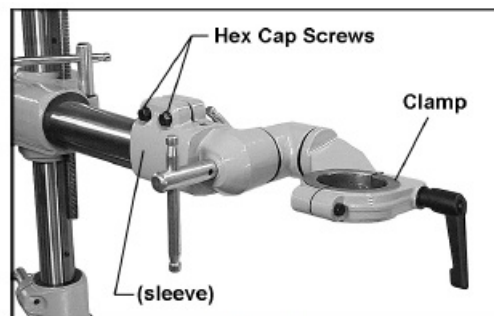
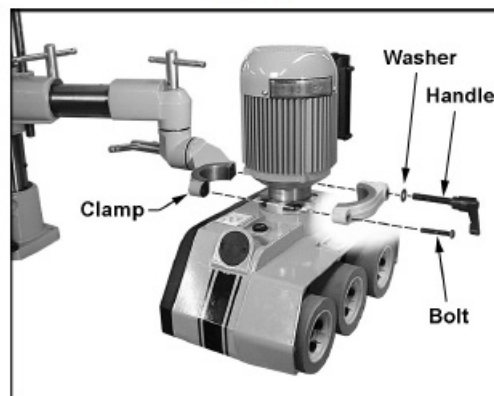

Figure 8
Figure 9
14. Place the sleeve of the over arm cone assembly onto the over arm as shown in Figure 8. Loosen further the two hex cap screws if needed. Push the cone assembly onto the over arm as far as it will go.
15. Tighten the two hex cap screws (Figure 8) with a 14mm wrench. The stock feeder is heavy. The use of an assistant may be necessary.
17. Mounting the feeder body may be easier if you loosen the two hex cap screws (shown in Figure 8) and rotate the over arm cone assembly so that the clamp is toward the bottom, as shown in Figure 9. Loosen the handles and rotate the cones as needed to get the clamp in position. Re-tighten the screws and handles before mounting the feeder body.
18. Unscrew the bolt and the handle (Figure 9) from the clamp, and remove the outer half of the clamp.
The handle (Figure 9) is adjustable. To tighten it, rotate the handle clockwise, then lift out on the handle, rotate it counterclockwise on the pin and release it, making sure it re-seats itself on the pin. Continue this procedure until tight. (This adjustable feature allows the handle to be re-positioned at any time while remaining tight.)